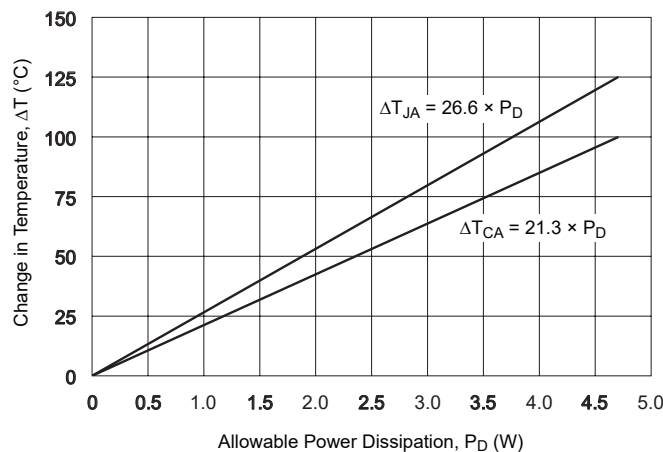

Figure 16. Power dissipation estimate for junction-to-ambient and case-to-ambient temperature change
Based on the power dissipation of the product thus calculated, the junction temperature of the product is estimated by using the temperature rise curves of figure 16.
Unless the temperature exceeds 150°C under the worst conditions (the maximum values of ambient operating temperature), there will be no problem, but final judgment should be made by measuring the device temperature during the actual operation and then verifying power dissipation and junction temperature in accordance with figure 16.
2. From the temperature rise thus obtained, the power dissipation,  $P_D$ , and the junction temperature,  $T_J$ , are estimated using figure 16.